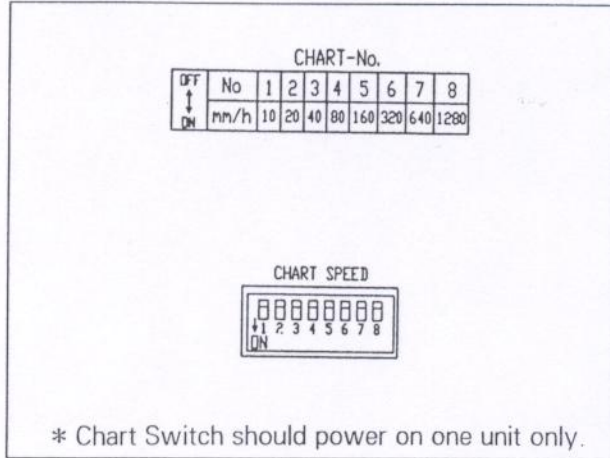

Fig 5.8
- 2) Change it to the required chart-speed referring to fig 5.8